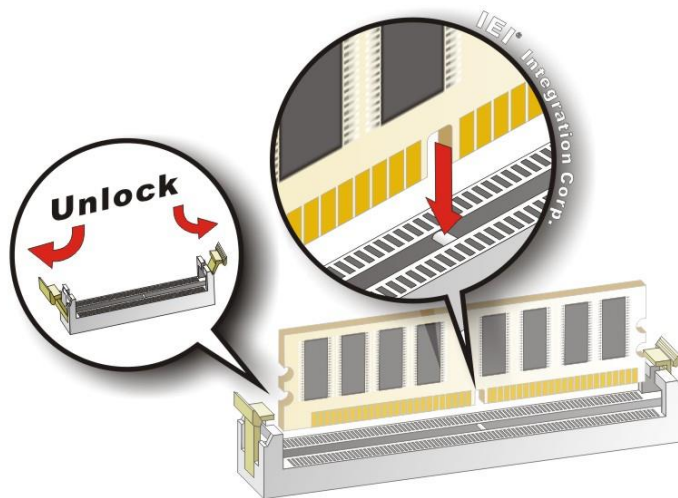

Figure 4-8: DIMM Installation
To install a DIMM, please follow the steps below and refer to **Figure 4-8**.
Step 1: Open the DIMM socket handles. Open the two handles outwards as far as they can. See **Figure 4-8**.
Step 2: Align the DIMM with the socket. Align the DIMM so the notch on the memory lines up with the notch on the memory socket. See **Figure 4-8**.
Step 3: Insert the DIMM. Once aligned, press down until the DIMM is properly seated. Clip the two handles into place. See **Figure 4-8**.